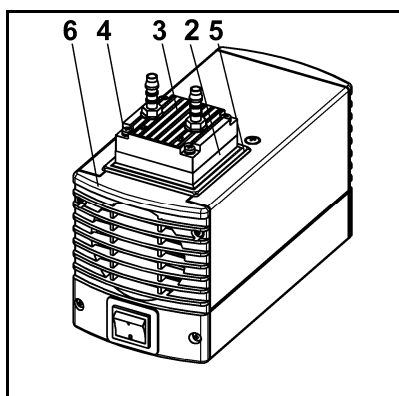

Fig. 7: Removing pump head
1. Mark the position of head plate (Fig. 7/3), intermediate plate (2), cover (5) and cover plate (6) by a drawing line with a felt-tip pen. This helps to avoid incorrect assembly later.
2. Undo the 4 screws (4) in the head plate (3) and lift the head plate together with intermediate plate (2) off the pump housing.
1. Remove the valve plates/sealings (7) from the intermediate plate (2)
2. Check that the valve seats, intermediate plate (2) and head plate (fig. 7/3) are clean. If scratches or distortion are evident on these parts they should be replaced.
3. Lay the new valve plates/sealings (7) in the recesses in the intermediate plate (2). The valve plates/sealings for suction and pressure sides are identical, as are upper and lower sides of the valve plates/sealings.
4. Check that the valve plates/sealings (7) are not deformed by moving them gently sideways in their recesses.
1. Place the intermediate plate (2) with valve plates/sealings (7) on housing (1) in the position indicated by the drawing line.
2. Place the head plate (fig. 7/3) with cover (fig. 7/5) on the intermediate plate (2) in the position indicated by the drawing line.
3. Check that the head plate (fig. 7/3) is centred by moving it gently sideways.
4. Tighten the screws (4), evenly and diagonally, first gently, then firmly.